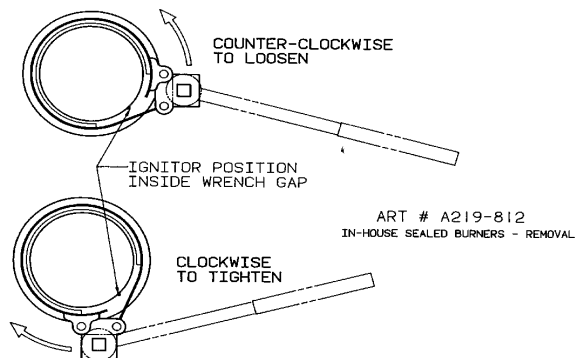

FIGURE 3
3. Place burner wrench (part no. 8312D075-60, available from the dealer or authorized service agency) over the surface burner assembly with the ignitor positioned inside the gap in the wrench ring (figure 3). This prevents the igniter from being damaged when the wrench grips the burner assembly. Rotate the burner assembly approximately one-eighth turn counter-clockwise and lift from the main top.